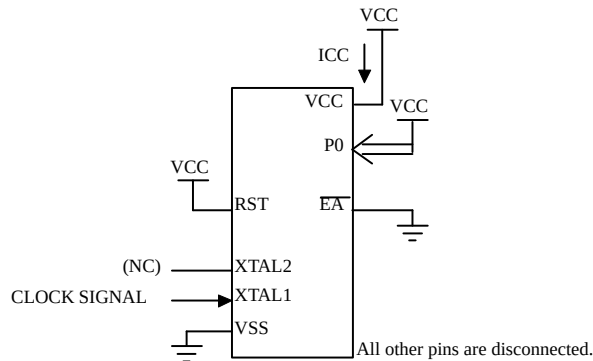
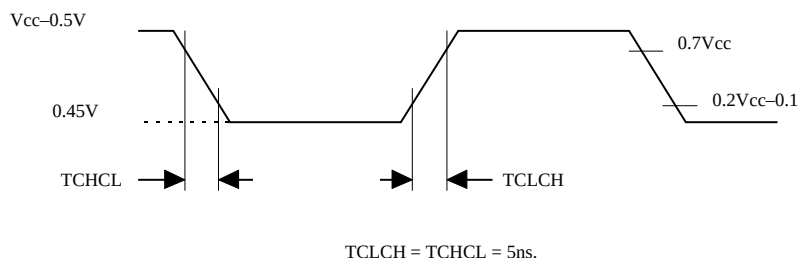

Figure 17. ICC Test Condition, Active Mode.
Figure 20. Clock Signal Waveform for ICC Tests in Active and Idle Modes.
1. ICC is measured with all output pins disconnected; XTAL1 driven with TCLCH, TCHCL = 5 ns (see Figure 20.), $V_{IL} = V_{SS} + 0.5\text{V}$, $V_{IH} = V_{CC} - 0.5\text{V}$; XTAL2 N.C.; $\overline{\text{EA}} = \text{RST} = \text{Port 0} = V_{CC}$. ICC would be slightly higher if a crystal oscillator used (see Figure 17.).